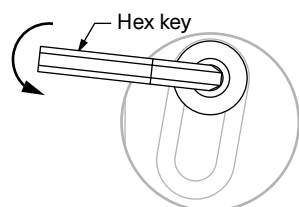

Fig 3c - Loosen button head screws
- 3.4 Using the hex key (D), loosen the 3 button head screws in the Miter Bar through the adjustment holes [Fig 3c].